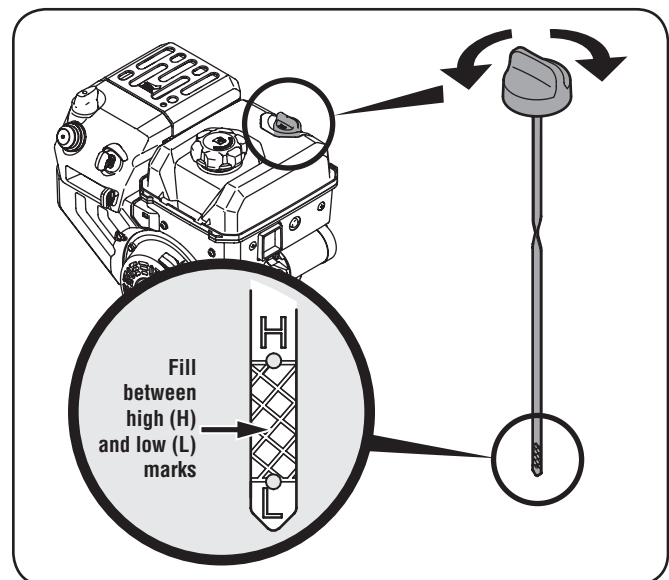
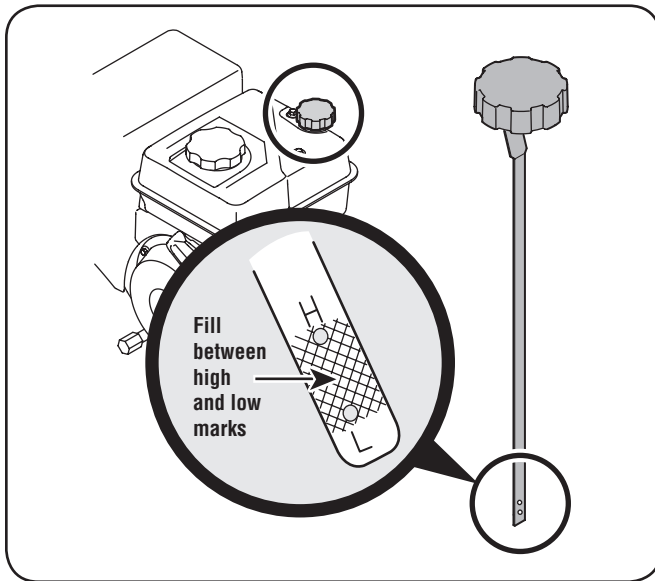

Figure 3-2
Figure 3-3
- Keep oil level between "H" and "L" marks on dipstick. See Figure 3-2.
1. Remove the oil filler cap/dipstick and wipe the dipstick clean. See Figure 3-2.
3. Remove the oil filler cap/dipstick. If the level is low, slowly add oil until oil level registers between high (H) and low (L), Figure 3-2.
- Keep oil level between “H” and “L” marks on dipstick. See Figure 3-3.
1. Remove the oil filler cap/dipstick and wipe the dipstick clean. See Figure 3-3.
3. Remove the oil filler cap/dipstick. If the level is low, slowly add oil until oil level registers between high (H) and low (L), Figure 3-3.
4. Loosen and remove the oil fill cap dipstick from the oil filler tube. Note the oil level, if oil reading on the dipstick is below the “L” mark, slowly add oil to reach the “H” level. See Figure 3-2 or Figure 3-3, whichever is applicable.